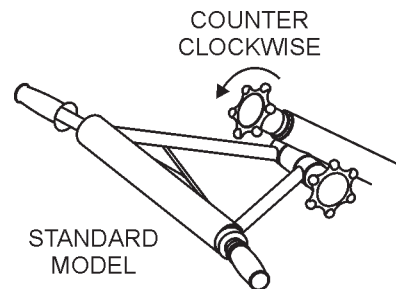
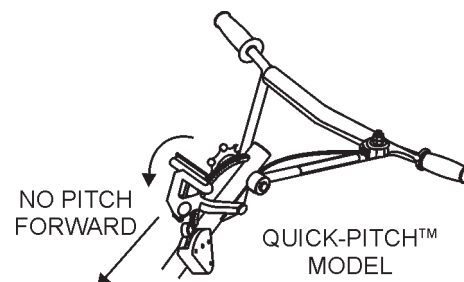

Figure 11. "No Pitch" Position (Standard)
Figure 12. "No Pitch" Position (Quick-Pitch™)
1. Expose the pitch cable to maximum by adjusting the handle pitch to the "no pitch" position. On the standard model turn the pitch control counter-clockwise, (Figure 11). On the Quick-Pitch™ model, pivot the pitch handle forward or no pitch, (Figure 12).